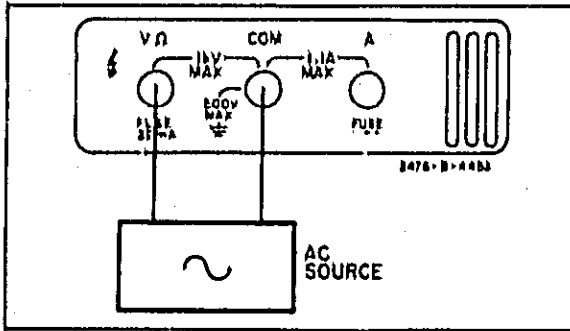

Figure 3-3. AC Voltage Measurement.
- DC/AC (— ~), . . . . . ~ (IN)
- VOLTS (V) . . . . . (IN)
- AMPS (A) AND kΩ . . . . . (OUT)
3-13. Connect test leads from the Multimeter V Ω (HI) and COM (LOW) connectors to the voltage under test as shown in Figure 3-3.